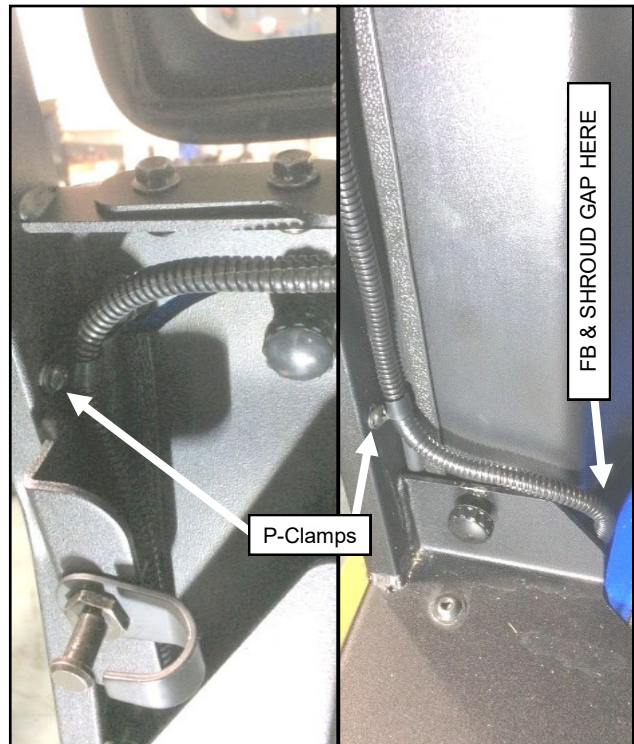

Fig. 10.3 (Secure Harness to Side Frame)
10.3 Run the wire harness over to and down the left side frame through the gap between the floorboard and intake shroud. Secure it in (2) places along the side frame using P-clamps and self-drilling screws. See Figure 10.3.